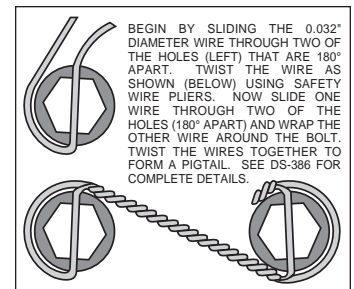

Figure 4. Safety Wire Diagram
- The hat/rotor assembly (6) has been pre-assembled at the factory using red *Loctite*[®] 271 on the mounting bolts and torqued to specification. For an added measure of security, the bolts may be safety wired using standard 0.032 inch diameter stainless steel safety wire as shown in Figure 4. Please refer to Wilwood's data sheet DS-386 (available at www.wilwood.com/Pdf/DataSheets/ds386.pdf) for complete safety wire installation instructions.